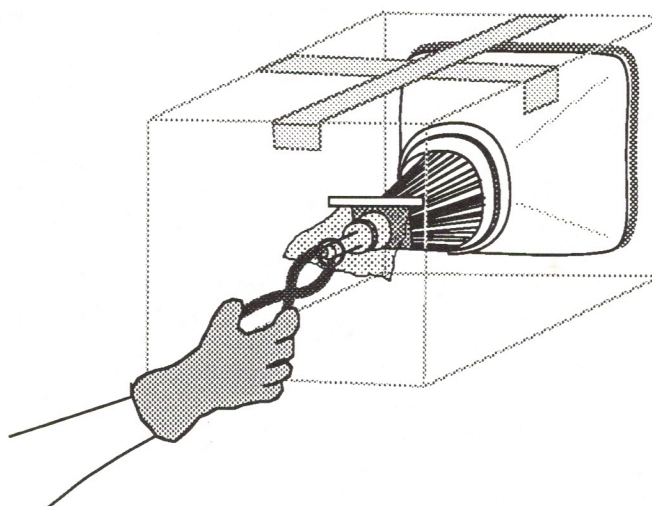

FIGURE 5
6. Tape the piece of cloth or paper onto the box (Figure 5, #1) so that it forms a veil over the opening (Figure 5, #2) but allows your hand access to the tip of the CRT. The veil's purpose is to catch bits of glass that may fly during the following step.